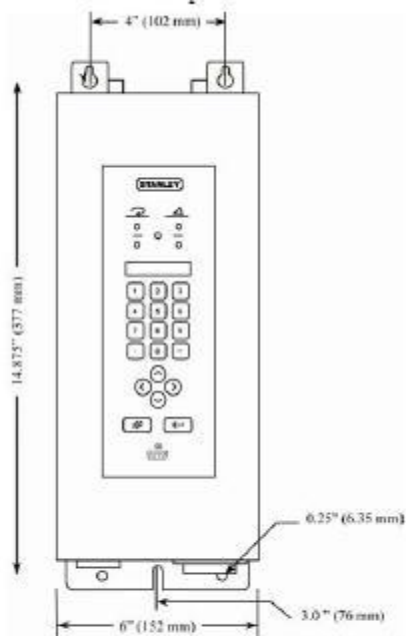

Figure 1-14 Alpha Controller Installation Dimensions
1. Secure the Alpha Controller with three fasteners (not supplied). For dimensions and screw holes, see Figure 1-14.